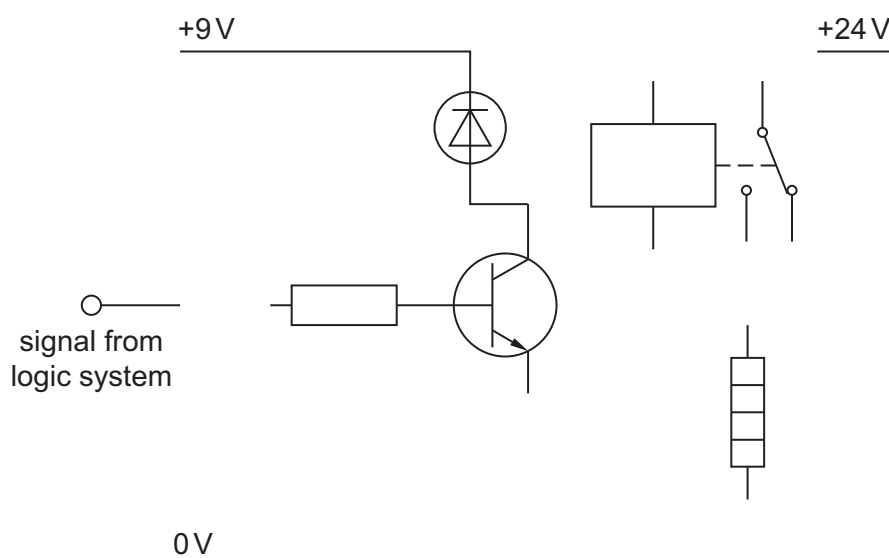

Fig. 11.5
- (iv) Fig. 11.5 shows an incomplete circuit diagram of the signal from the logic system and a relay that is used to switch on the heater.
Complete Fig. 11.5 to show connections for the: